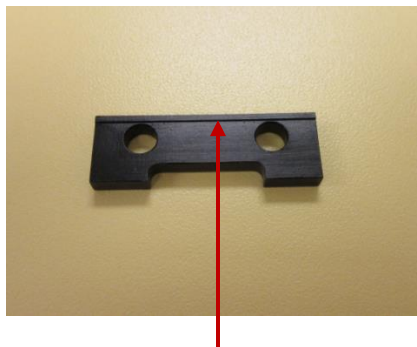

Figure 5.2.3 Showing lip on back (blade) side of clamp
- Note that the back of the blade clamp has a lip. This must be facing toward blade when re-installing to properly hold the blade. *Figure 5.2.3*